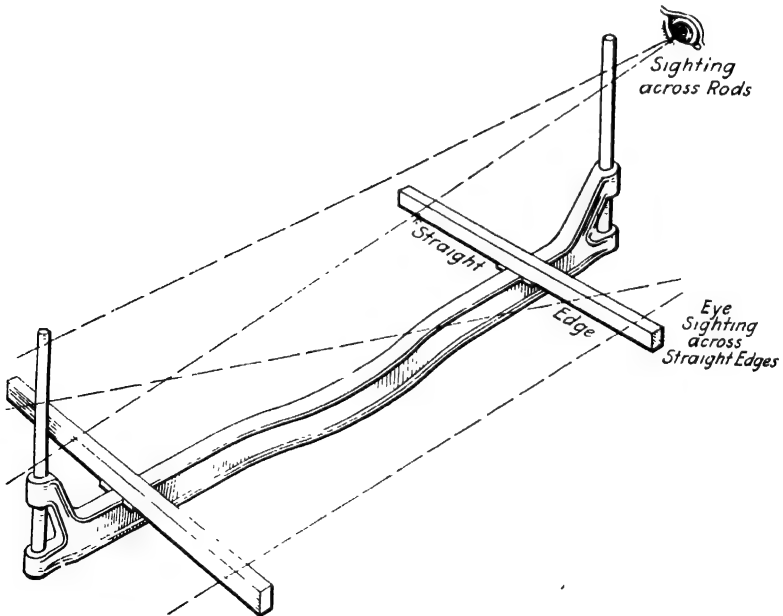

FIG. 3d.—Checking Front Axle for a Twist between Spring Seats and Outside of Spring Seats.
If the repairman is satisfied that no twist exists between the spring seats, a rod should be placed in each end of the axle yoke as shown in Fig. 3d; if these rods are not parallel a twist will be found in the axle outside of the spring seats.
3. In Fig. 3d how can you determine whether the twist is between the spring seats or between the seat and yoke?
4. In Fig. 3d how can you check the axle for backward or forward bends?